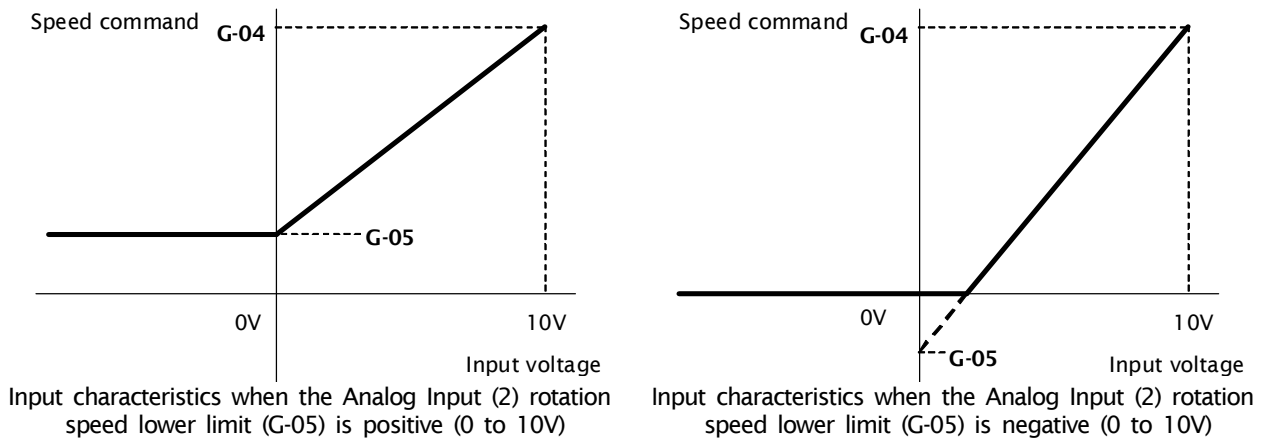

Figure 5.3 Speed command characteristics with voltage input of 0 to 10V
The rotation speed command value is set as the Analog Input (2) rotation speed lower limit (G-05) when the input is 0V. When the input is 10V, it is set as the Analog Input (2) rotation speed upper limit (G-04). However, this will be set to “0” if the Analog Input (2) rotation speed lower limit (G-05) has a negative value. (Figure 5.3) If the minimum rotation speed (A-01) is other than “0”, the rotation speed command absolute value is controlled to prevent falling below the minimum speed. As a speed command, this only allows forward operation. For reverse operation, a reverse operation command should be used.